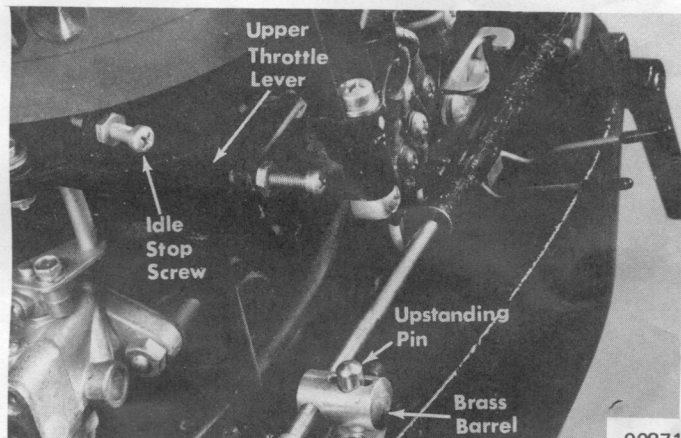

Figure 11. Attaching Throttle Cable Brass Barrel
3. With upper throttle lever against idle stop screw, place adjusting brass barrel on pin of throttle lever link. Cable must be inside pin, as shown in Figure 11.